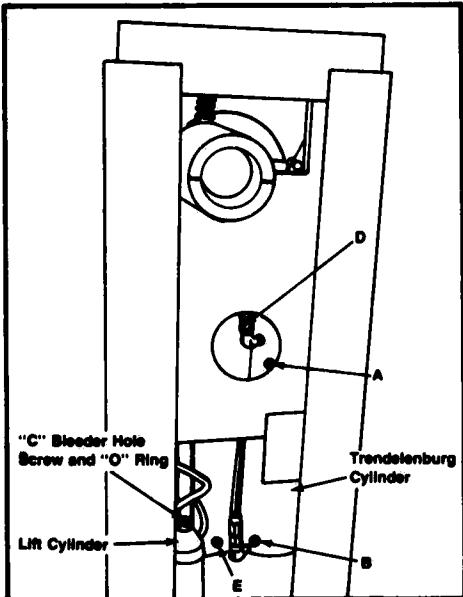

Figure 4-3. Location of Bleeder Outlets.
6. Step on the LOWER pedal (2) to relieve the pressure in the lift cylinder (Fig. 4-3) and remove the bleeder hole screw (C, Fig. 4-3) and the "O" ring located in the 3/4 inch raise piston.
9. Move the table through a complete HEAD UP — HEAD DN cycle several times to drive all the air in the Trendelenburg system into the Trendelenburg cylinder (Fig. 4-3).
10. To bleed the Trendelenburg cylinder, put the table in a complete HEAD DN position and loosen the socket head screw (A, Fig. 4-3) near the top of the Trendelenburg cylinder.
NOTE: Older model tables do not have this screw, therefore, the fitting (D, Fig. 4-3) must be loosened near the top of the Trendelenburg cylinder.
13. With the table in the HEAD UP position, loosen the bottom screw (B, Fig. 4-3) and bleed in the same way as with the top screw (A) loosened (Steps 10, 11 and 12). On older tables it will be necessary to loosen the lower fitting (E, Fig. 4-3) in the absence of a socket head screw for bleeding purposes. Tighten the bleeder screws (or fittings).